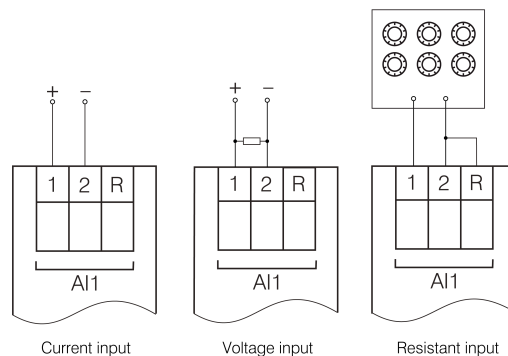

Fig. 6.1 Connection of the reference signal source to an input
1. Connect the reference signal source to the input (Fig. 6.1).